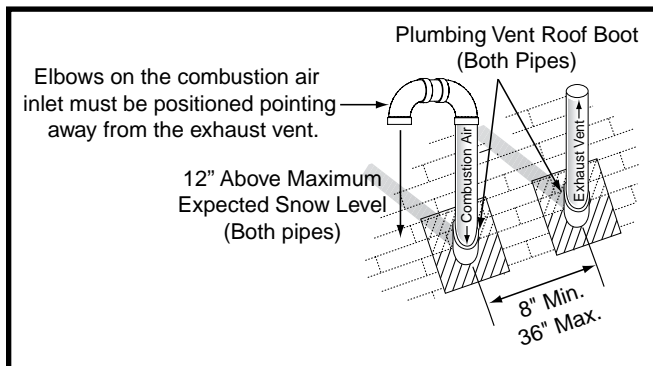

Figure 10. Vertical Vent Termination
Termination spacing requirements from the roof and from each other are shown in Figure 10.
- The termination clearances shown in Figure 10 are maintained.